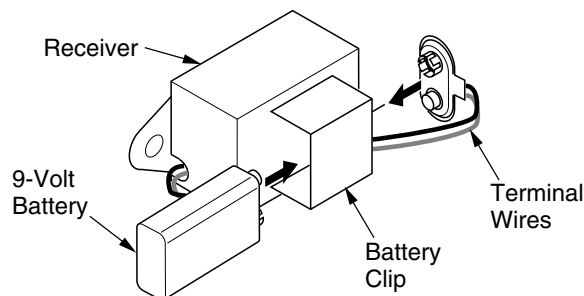

Figure 48 - Installing Battery in Receiver
3. Install 9-volt battery (not included) into receiver battery clip and connect to terminals (see Figure 48).